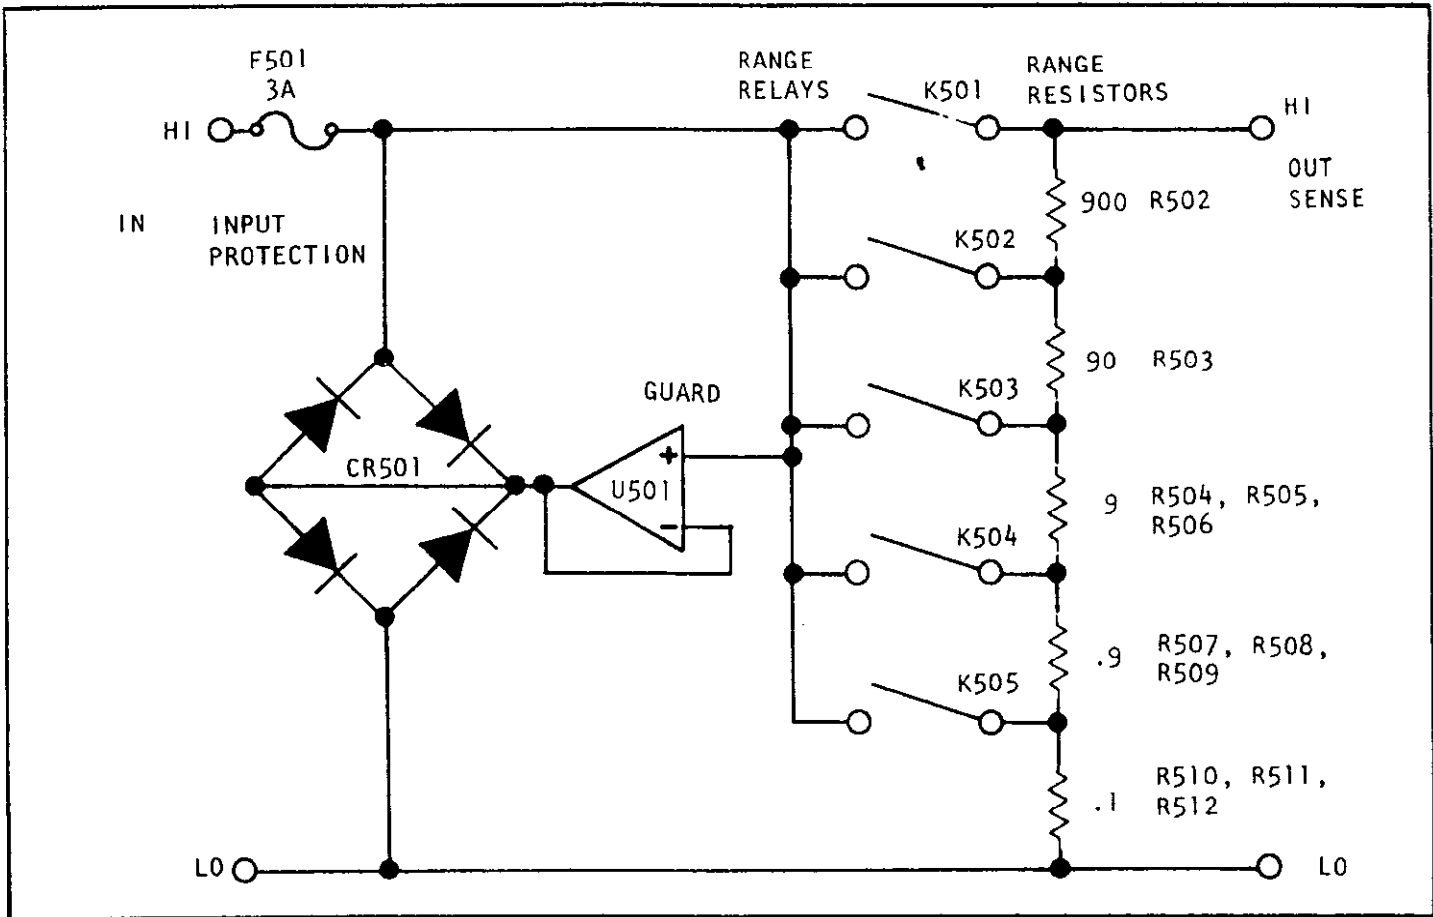

FIGURE 5-5. Simplified Schematic of 173A I/V Converter.
1) Model 173A I/V Converter. The converter is shown on the simplified schematic (Figure 5-5). An input current is converted to a voltage directly proportional to the input current by measuring the voltage drop across a resistance placed in series with the current. This is accomplished by closing the appropriate range relay (K501 through K505) to give an output voltage between 0 and 300 millivolts. For example: Consider that K503 is closed. The current will now flow through $9\Omega + 0.9\Omega + 0.1\Omega = 10\Omega$, and $30mA = 300mV$. Since a dc current is converted to a dc voltage and an ac current is converted to an ac voltage, the output of the I/V converter is routed through either the DC attenuator circuit or the AC/DC converter before being applied to the A/D converter. Signal routing is controlled by the DC/AC pushbutton and the gains employed are the same as those given in Table 5-2 for the 300mV range. Input protection for the I/V converter consists of a 3 ampere medium acting fuse (F501) and a diode bridge (CR50). The fuse is rear panel accessible. CR501 limits the voltage to 2 diode drops in either positive or negative polarity. Unity gain buffer amplifier U501 guards the center connections of the diodes so that less than one digit error is introduced on the 300 μ A range, which has 10 nanoampere sensitivity. Refer to Schematic 27478D for the remainder of this discussion. Range control lines (A, B and C from LSI chip U^o01) autorange the Model 173A current function. The lines are decoded by the BCD to decimal decoder U502 (See Table 5-3). The output from U502 turns on the applicable relay driver transistor to energize its range relay. Diodes are used to block the range lines when -12V is applied and input dividers are used to drop +8V to +5 volts for application to U502. Spike suppression diodes are used across the relay coils to prevent damage to the relay drivers. Potentiometers R506, R509 and R512 provide adjustments for calibrating the I/V converter. With the exception of the fuse, all of the I/V converter circuitry is physically located on current PC-406 and shown on Component Layout diagram 27884C in Section 7.